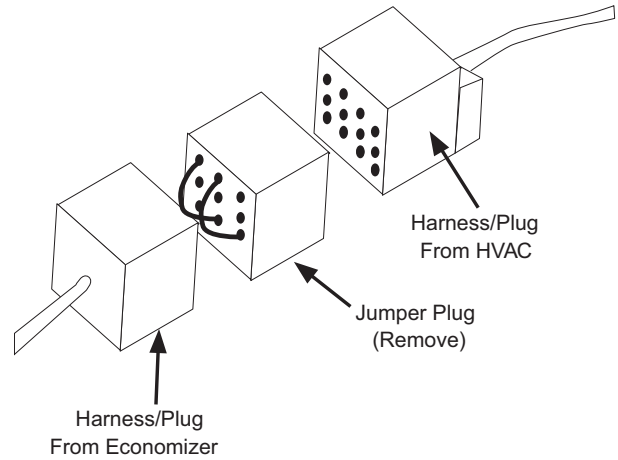

Fig. 7 — Harness and Jumper Plug
8. Before the economizer is secured in place on the right hand side, remove and save the 12-pin jumper plug from the unit wiring harness. Insert the economizer plug into the unit wiring harness plug. (See Fig. 7.)
8. Before the economizer is secured in place on the right hand side, remove and save the 12-pin jumper plug from the unit wiring harness. Insert the economizer plug into the unit wiring harness plug. (Refer to Fig. 7.)